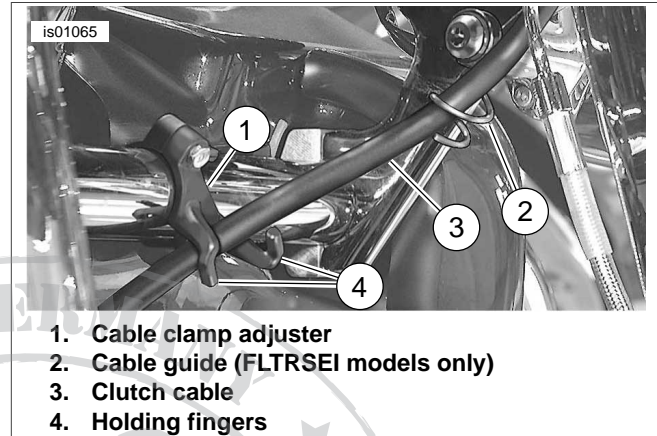

Figure 1. Clutch Cable Routing, FLTR Models with Fairing Lower
- See Figure 1. Carefully twist the clutch cable around the coiled opening in the clutch cable guide (2) with the eyelet toward the left handlebar.